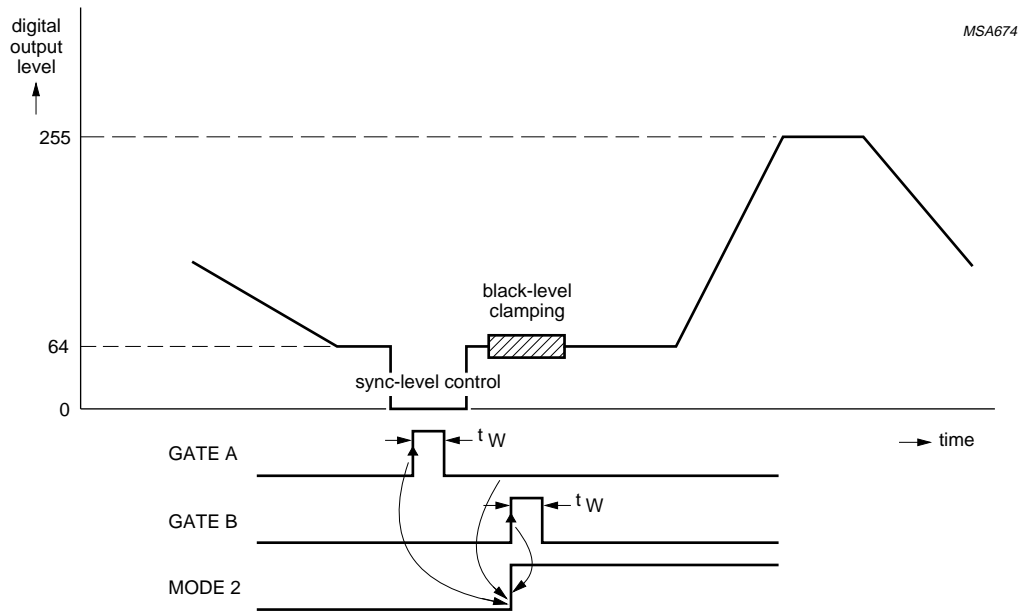

Fig.5 Control mode 2.
1. Mode 2 can only be initialized with successive pulses on GATE A and GATE B (see Fig.5).